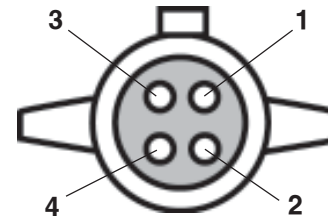

Figure 12
2. Wire the plug to match your vehicle, or follow Figure 12. Apply a silicone sealant to the wires where they attach to the plug – this will help prevent damage from moisture and corrosion.